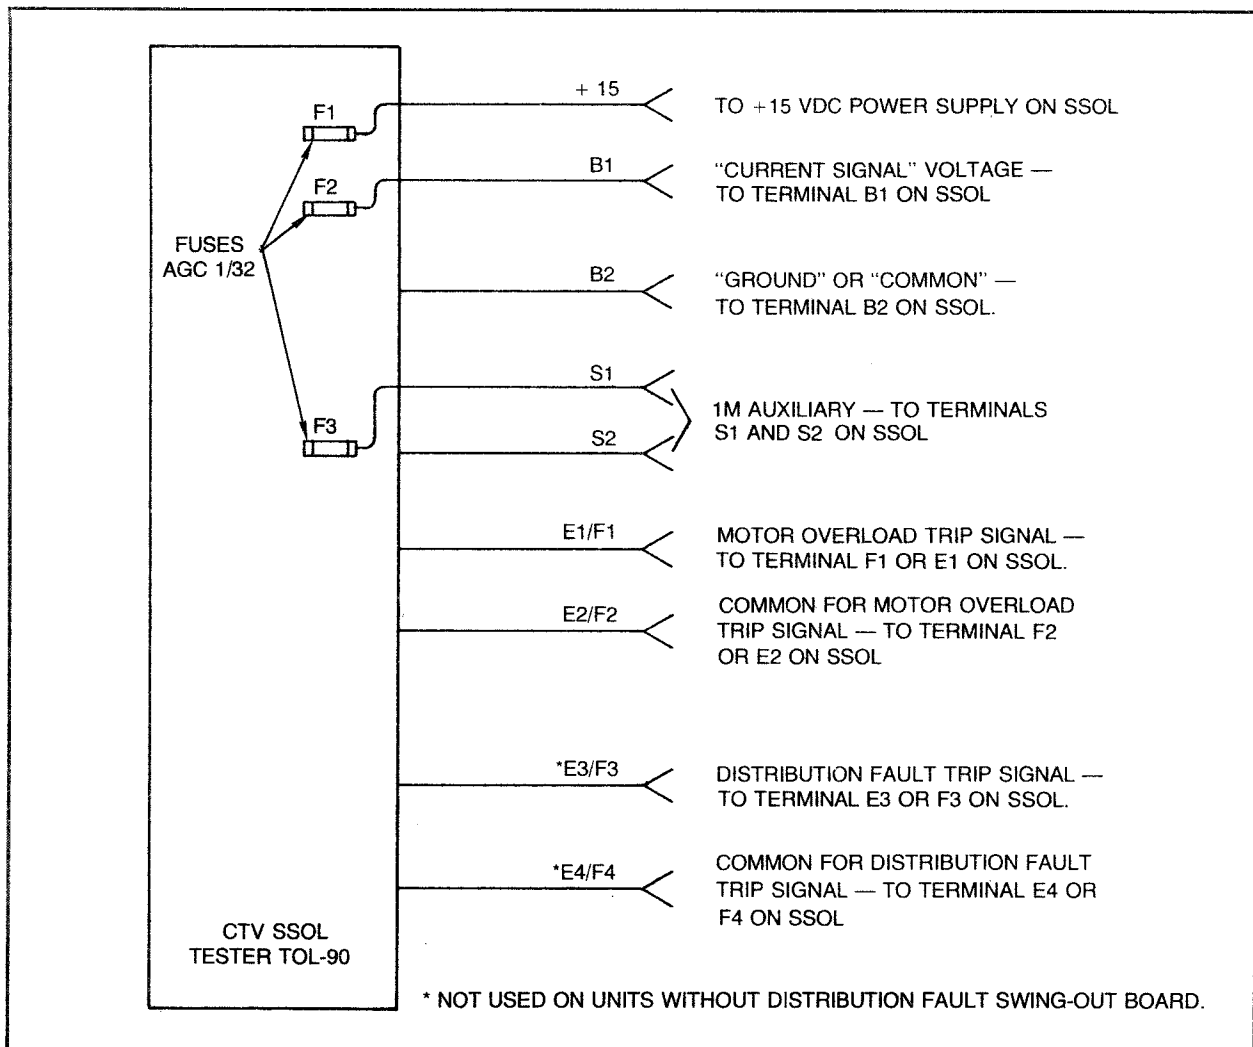

FIGURE 2 - TOL-90 Solid State Overload Tester Connection Diagram
10. Connects the leads from the TOL-90 tester to the matching terminals on the SSOL and the swing-out board (refer to Figure 2). It may be necessary to loosen the terminal screws on the SSOL.